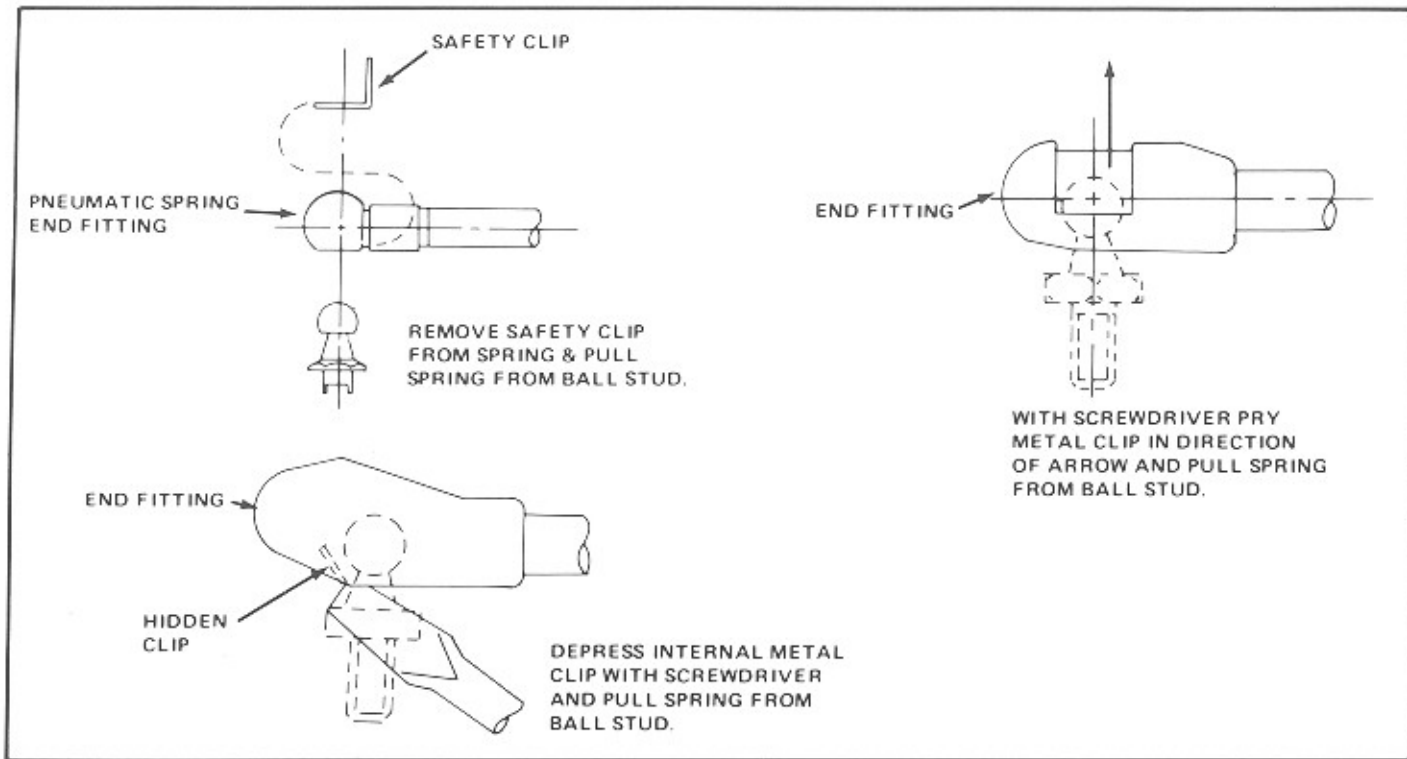

Figure 3-25. Door Spring Fittings
2. While another person keeps the door open, find the appropriate style spring end fitting in figure 3-25 and follow the example given.